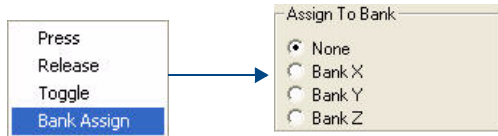

FIG. 100 Button > Bank assign
- In the menu bar, select **Button > Bank assign**. This invokes the *Bank Assign* options (FIG. 100):